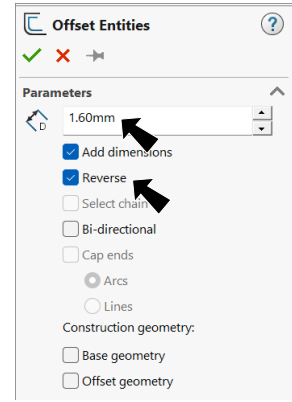

Fig. 37
Step 4. In the Offset Entities Property Manager set: under Parameters, Fig. 37